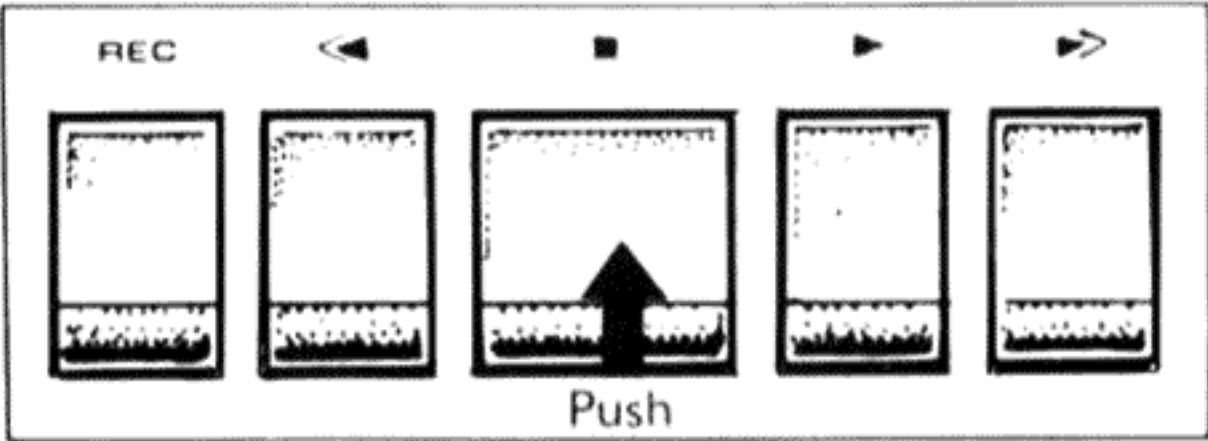

Fig. 33
13. Whenever you want to stop the recording, push the ■ STOP button (Fig. 33).